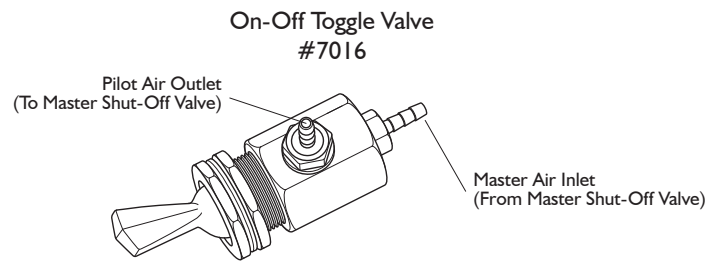

Figure 3
3. It is sometimes desirable to install an on-off toggle valve on the utility center. A 1/2" diameter hole is provided on the utility center housing for mounting the valve. *Figure 3* shows the tubing connections for a typical on-off valve.